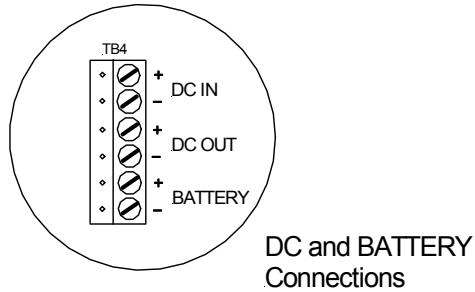

Figure 3-17
1. Connect the supplied red battery wire to the (+) terminal and the supplied black battery wire to the (-) terminal of TB4 (BATTERY) connection. (See Figure 3-17 on Page 34)